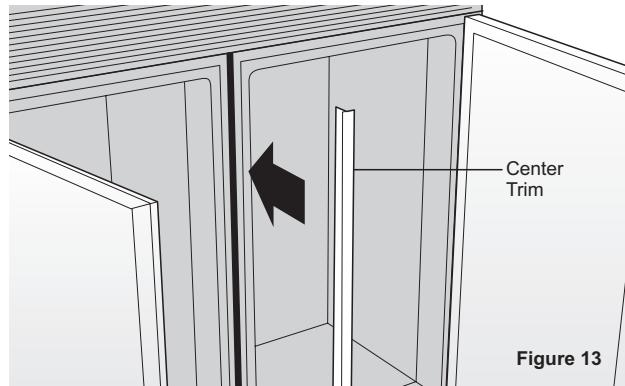

Figure 13
8. Recheck the level of each unit. Depending of the flatness of your floor, you may need to remove each unit and readjust several times before achieving an acceptable state of levelness and alignment. Allow 3/8" gap between units for center trim (G). See Figure 13.
10. Install the magnetic center trim piece (G) in the gap between both units. See Figure 13. Trim piece should be flush with tops of units and fit snugly on top of toe grille.